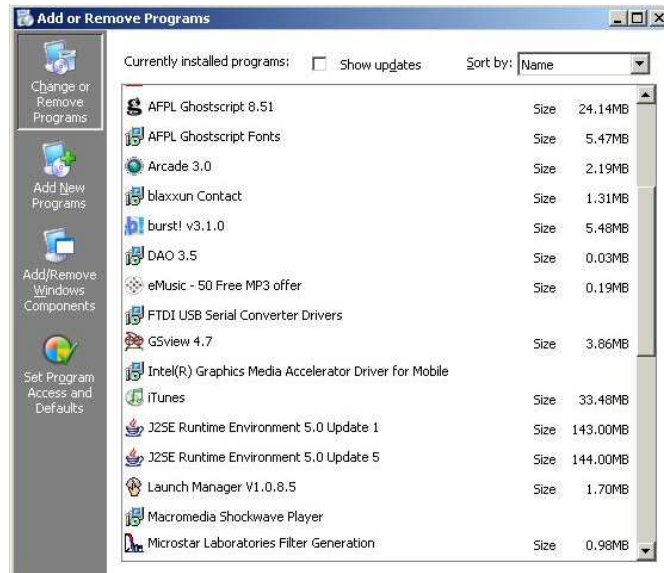

Figure 22: Add or Remove Programs
3. Double click on **Add or Remove Programs**, obtaining a screen like figure 22.
Figure 22 lists the FTDI drivers, so they are installed. Similarly, the Tcl/Tk program for the unit should be shown on the same list under **Syscomp**.
1. On the Add or Remove Programs list of figure 22, find the entry **System**. Double click on it to obtain the **System Properties** screen of figure 23.